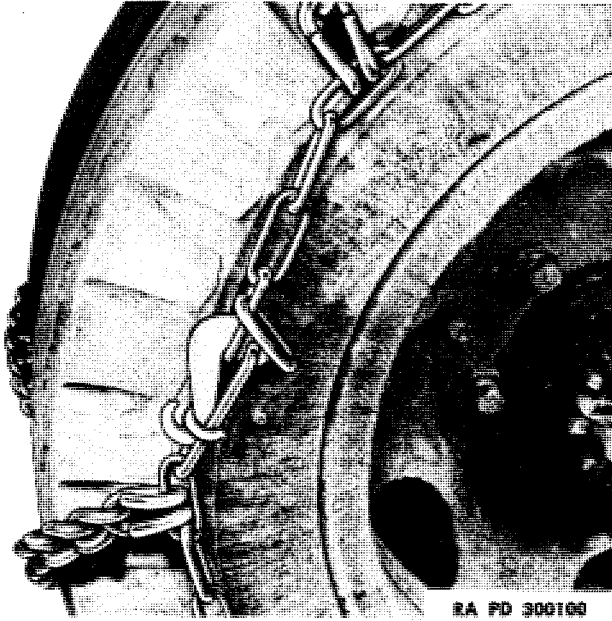
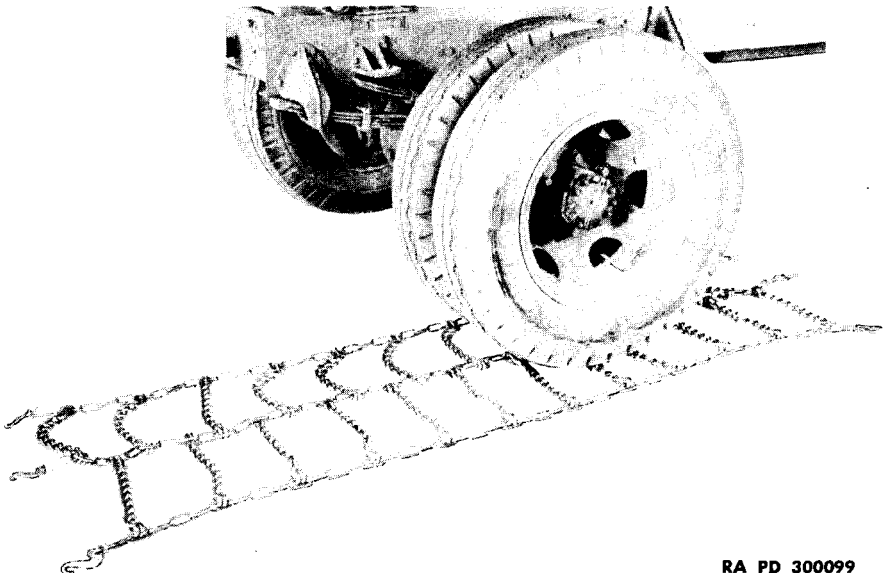

Figure 107—Tire Chain Clamp
Figure 108—Installing Tire Chain
b. **Tire Chain Removal.** Unfasten each clamping hook by sliding the slotted locking ring to uppermost position, and release each hook in turn (fig. 107). Lay chains flat on the ground. Drive truck off chains. Clean and place chains in bags. Report any lost or broken links to higher authority.
c. **Tire Chain Installation.** Remove chain from bag and lay inside of chain face up on ground directly behind rear wheel. Back the truck over the chain until approximately $\frac{2}{3}$ of the chain has been traveled on (fig. 108). Fasten each of the three links in turn, removing all slack from chain. Slide slotted locking ring into position over clamping hook (fig. 107).